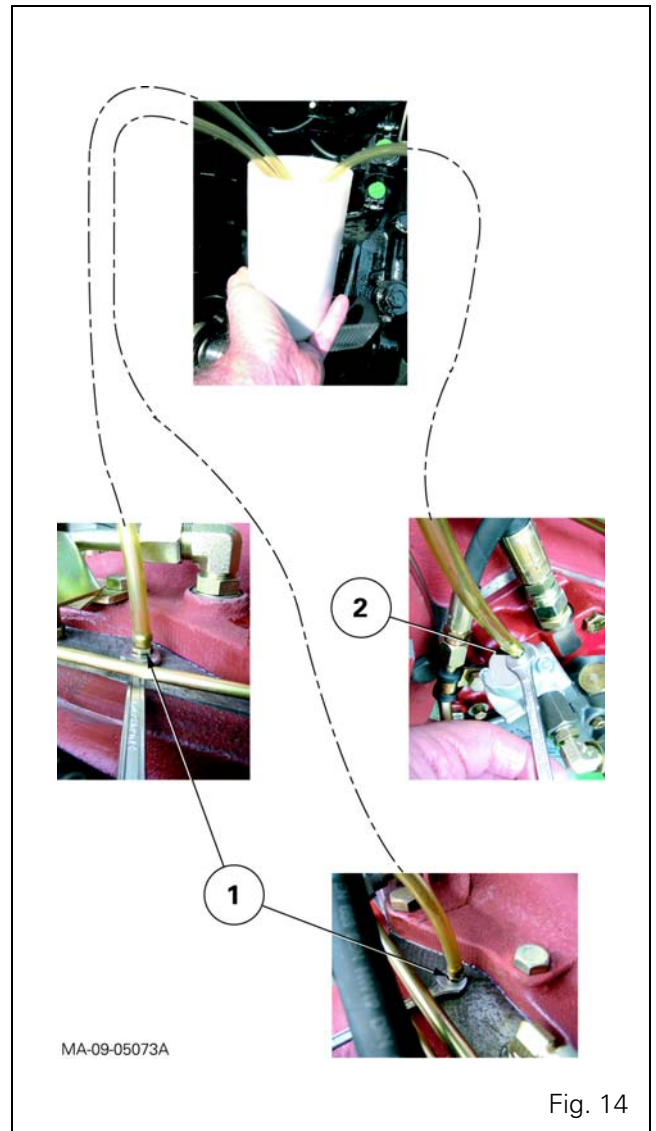

Fig. 14
- Open (Fig. 14):
- the two bleed screws (1) of the main brake;
- the trailer brake screw (2).
- When the bleeding is complete, tighten in the following order (Fig. 14):
- the left-hand brake bleed screw (1);
- the right-hand brake bleed screw (1);
- the trailer brake bleed screw (2).